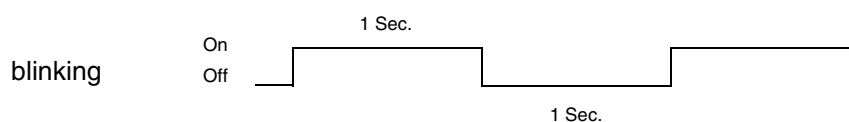

Fig. 2.183 Visual signalling LOS/LFA/Training of the BSTU4
1) Visual signalling according to Fig. 2.183